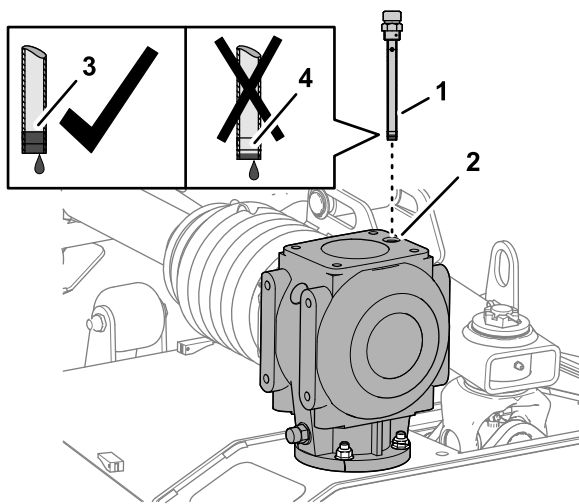

Figure 58
1. Remove the dipstick from the dipstick port at the top of the center gearbox (Figure 57 or Figure 58).
2. Check the fluid level indicated on the dipstick (Figure 57 or Figure 58).
4. Thread the dipstick into the fill port and tighten the dipstick (Figure 57 or Figure 58).